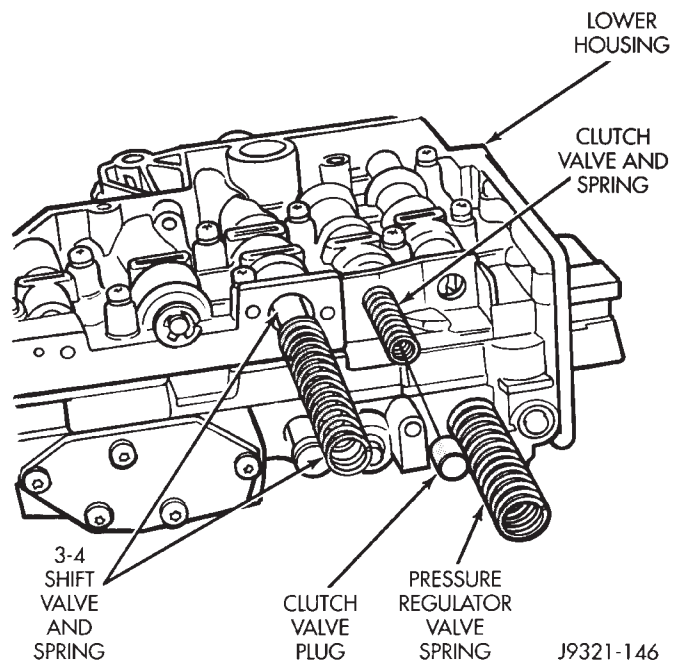

Fig. 103 Clutch Valve And 3-4 Shift Valve Locations—46RH
(16) Remove following parts from valve body lower housing: 3-4 shift valve and spring; pressure regulator valve spring; clutch valve; clutch valve spring; and clutch valve plug (Fig. 103).